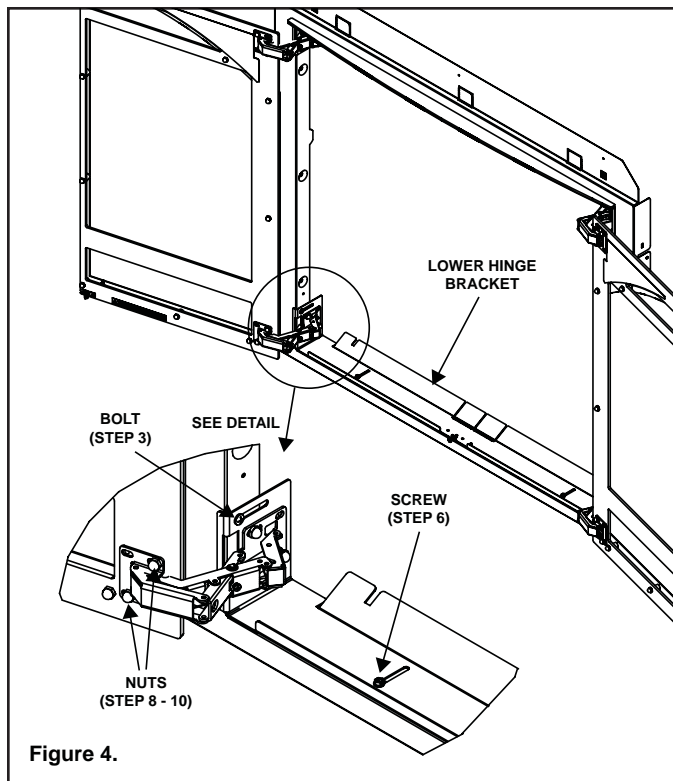

Figure 4.
3. Slide the bracket tight against the finishing material (up to 1 inch thick). Locate the slot on each side of the bracket. If the door is to be used as an inside fit, pull the bracket all the way forward. Tighten a bolt into each slot (see Figure 4).
6. Locate the slots in the hinge brackets. On the bottom drive two self-tapping screws into the pilot holes in the fireplace surround to help lock the bracket in place. On the top, drive two self-tapping screws into the slots. On top there are no pilot holes (see Figures 4 and 5).
8. Install the left door on the hinges and tighten one nut on each of the four bolts, two on top hinge and two on the bottom (see Figure 4).